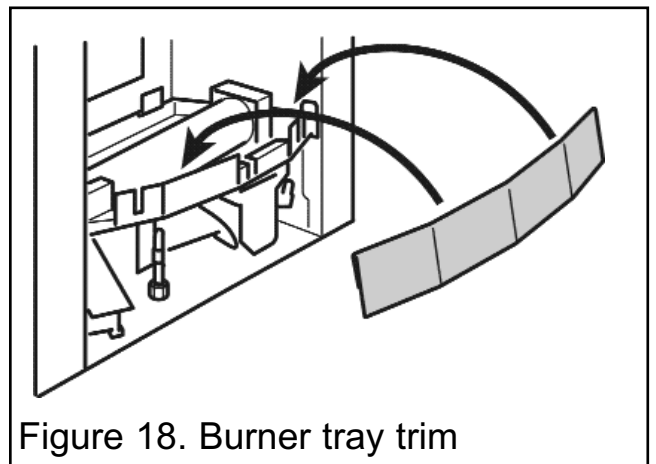

Figure 18. Burner tray trim
1. Fit the burner tray trim over the front rim of the burner tray. Push the trim fully down (See figure 18).